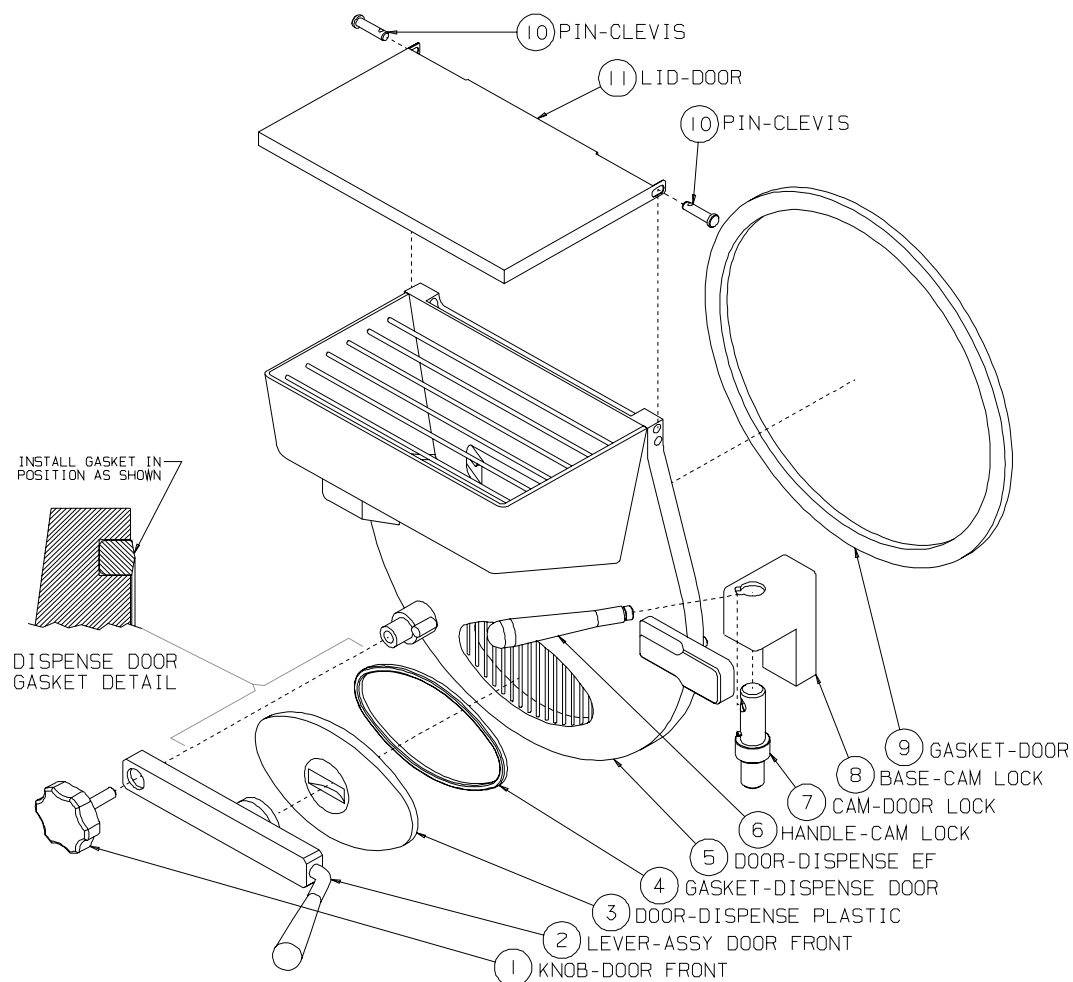

Figure 8-3 Door Assembly
5. See Figure 8-3. Lightly lubricate the dispense gasket (4) and place in the groove in the plastic dispense door (3).
7. Insert knob (1) through door lever (2) and screw one revolution into door (5). Slide the plastic dispense door (3) in position over the lever (2) and tighten the knob (1).
8. Install door lid (11) on door (5) and hold in place with clevis pins (10).
9. Lightly lubricate the gasket groove on the back of the door (5).
10. Insert the door gasket (9) in the groove and lubricate face of gasket.